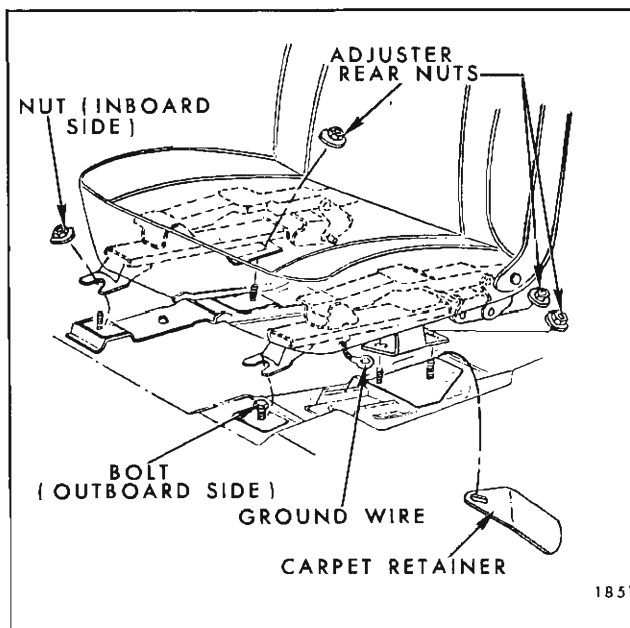

Fig. 2H10—Bucket Seat Attachment
4. Operate seat assembly to rearward position. (Fig. 2H10).
5. At front of seat, loosen adjuster-to-floor pan attaching bolt (Fig. 2H10).